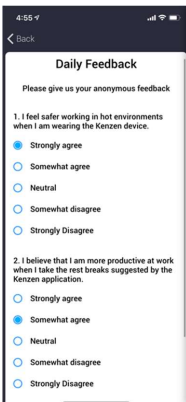

Figure 34: Feedback
2. Answer the short questions to Submit Feedback (Figure 34).